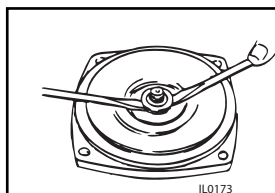

Figure 6 - Remove Mechanical Seal
1. Remove the four (4) pump through bolts that connect the mounting ring to the pump body. Remove the pump body, taking care not to damage the gasket or o-ring.
3. Remove the mechanical seal assembly. The rotary portion of the seal assembly (carbon ring, Buna-N gasket and spring) will easily slide off the end of the shaft. The ceramic portion can be pried out of the rubber seating using two (2) screwdrivers (see Fig. 6).